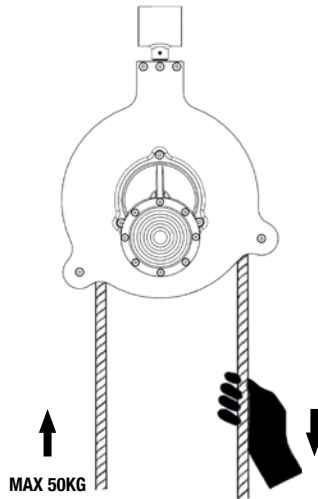

Figure 1- Direction of rope inserted into braked pulley
- Ensure the rope it is inserted in the correct direction as seen figure 1